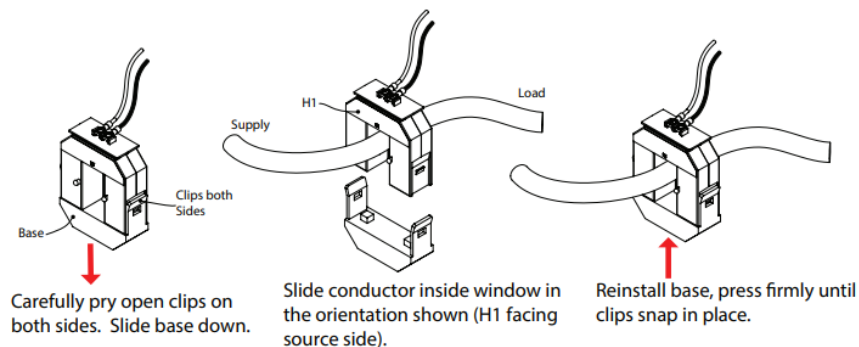

Figure 6. CTF 1000-5 SB Current Transformer [3]
- 3) Using the side clips on the current transformer shown in Figure 6 below, open the CT and place the desired conductor inside the CT's sensing window. Ensure that the proper orientation is used, referring to the second picture in Figure 6 below before reattaching the CT's bottom. Ensure a clicking sound occurs to ensure the CT's bottom has been properly reattached.